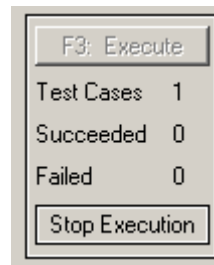

Figure 24 Script Server Window (Stop Execution)
- The Script can be terminated normally or can be stopped by clicking on the “Stop Execution” button in the “Script Server” window as shown in Figure 24.